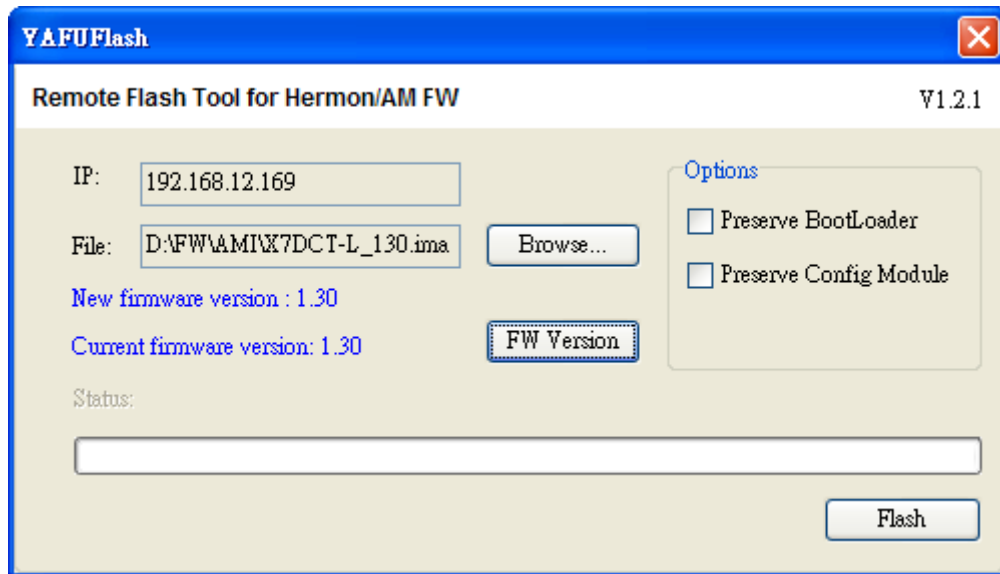

Figure D-5 Display of Current Firmware Version
4. Check the current firmware version. The current firmware version will be displayed as shown in Figure D-5.